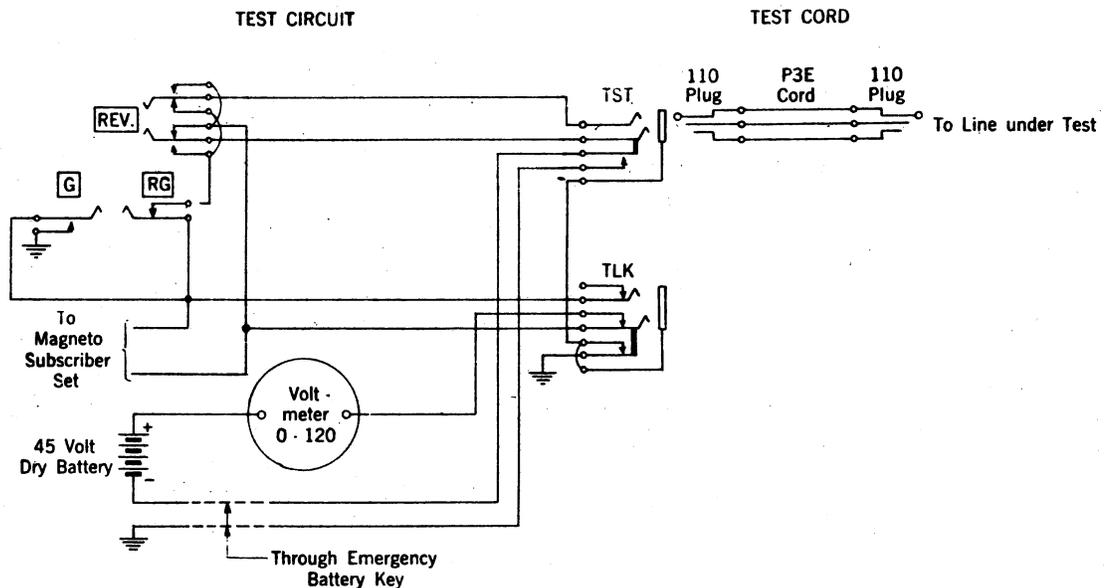

Fig. 2 - Test Circuit.
2.03 The positive side of a 45-volt dry battery is normally connected to the voltmeter of the test circuit as shown in Fig. 2. If the switchboard is equipped with the emergency battery feature, the 45-volt dry battery associated with the emergency feature is also used for the test battery. When used as both test and emergency battery, the connections from the battery to the test circuit, telephone circuit and emergency cord circuit are made through the emergency battery key which is located in the face of the switchboard, otherwise these connections are made directly from the battery to the test circuit and ground.
2.04 A subscriber set may be connected to the test circuit, as indicated in Fig. 2, so that talking tests can be made without requiring a switchboard position to be vacated for test purposes.